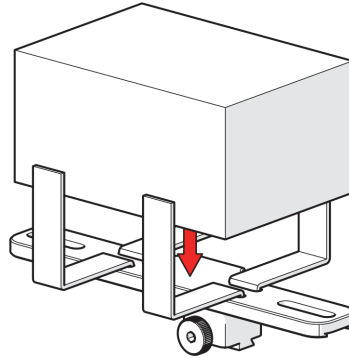

Figure 2-126 Place pre-amp in the bracket and secure with straps
2. Place the pre-amp in the bracket, and secure it in place using the hook and loop straps (see Figure 2-126 on page 127)